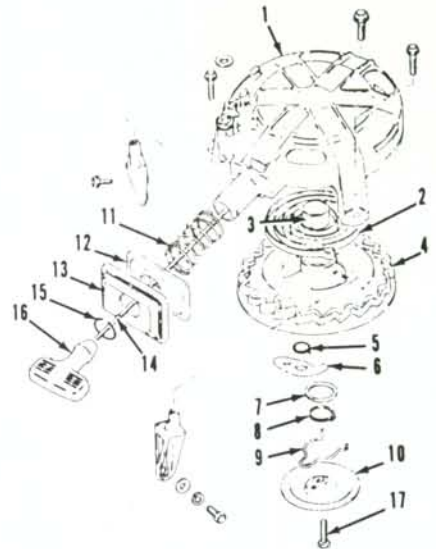

Fig. SZ11-15—Exploded view of manual starter assembly.
Refer to Fig. SZ11-15 for an exploded view of manual starter assembly. Starter may be removed as a complete unit by detaching the neutral start cable and removing the three cap screws securing starter assembly to power head. To disassemble starter, proceed as follows: Remove starter handle (16—Fig. SZ11-15) and allow starter rope (14) to slowly wind onto pulley (4). Detach neutral start components. Invert starter housing (1) and remove cap screw (17). Withdraw plate (10) and spring (9).
To place tension on rewind spring (2—Fig. SZ11-15), pass starter rope (14) through rope outlet in housing (1),